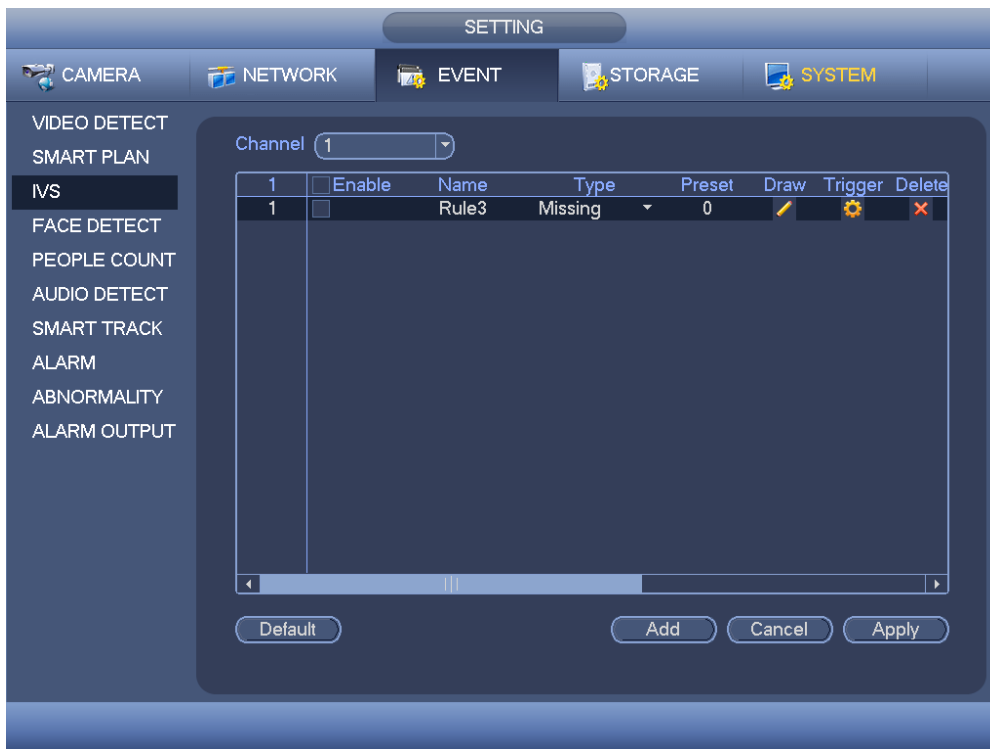

Figure 4-167
Step 1 From main menu->Setting->Event->IVS, select the type as abandoned object, the object interface is shown as below. See Figure 4-167.